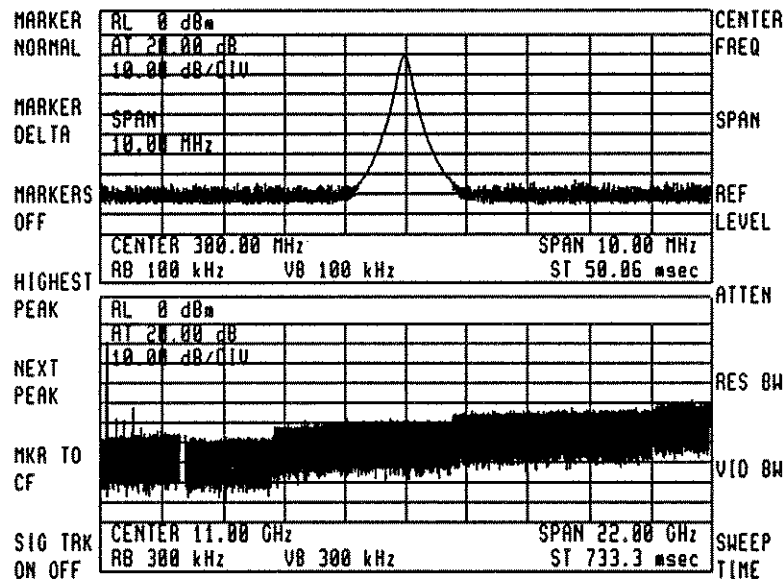

Fig. 5.
4. Assign each to a different instrument in the system, so that the Display screen is similar to Figure 5.